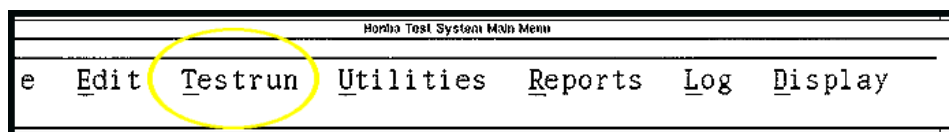

Figure 5
- 103 On the CDTCS computer main screen, click on "Testrun." See the circle in Figure 5.